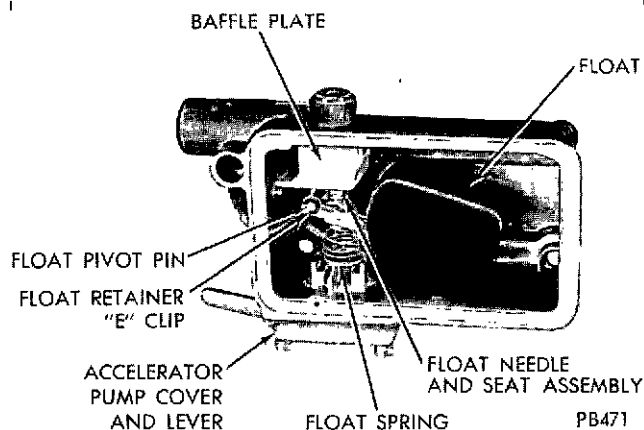

FIG. 35 Fuel Bowl Assembly Internal Adjusted Needle and Seat
12. Internal Needle and Seat: Remove float retainer "E" clip, then slide float and spring out of float chamber. Remove baffle, fuel inlet valve and seat. Discard gasket (Figure 35).
FUEL BOWLS WITH INTERNAL ADJUSTED FUEL INLET NEEDLE AND SEAT (Figure 35)